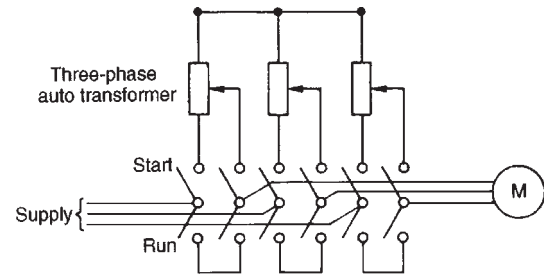

Figure 23.11
With this method, an auto transformer is used to reduce the stator voltage, E_1 , and thus the starting current (see equation (7)). However, the starting torque is seriously reduced (see equation (12)), so the voltage is reduced only sufficiently to give the required reduction of the starting current. A typical arrangement is shown in Fig. 23.11. A double-throw switch connects the auto transformer in circuit for starting, and when the motor is